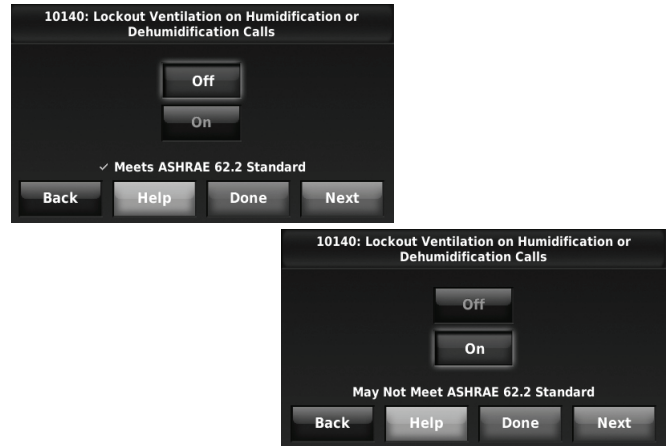

Fig. 262.
- Select whether to lockout ventilation on humidification or dehumidification calls. This feature is used to help reach the user's desired humidity level by not allowing the ventilation equipment to run during a call for humidification or dehumidification. The thermostat will indicate whether this meets or may not meet the ASHRAE 62.2 Standard or the Percent On Time setting. See Fig. 262.